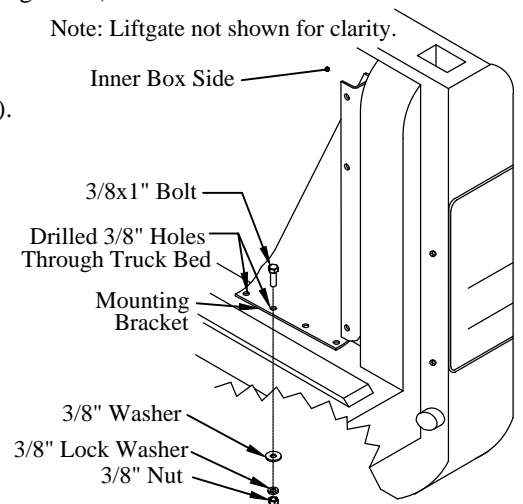

Figure 10: Mounting bracket and backer plate.
Choose two of the four holes provided with no obstructions on the underside (Figure 10).
- (2) 3/8"x1" hex head bolts on the top-side (Figure 10).
- (2) washers, (2) lock washers, and (2) hex nuts on the under-side (Figure 10).